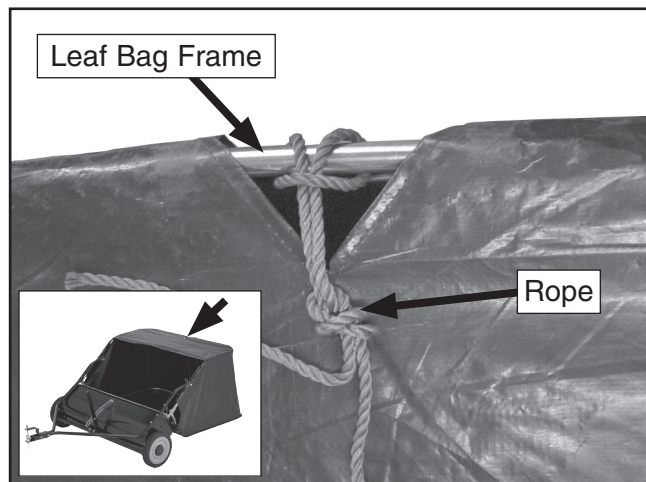

Figure 18. Rope attachment.
- Attach the leaf bag dump rope to the leaf bag frame, as shown in **Figure 18**.